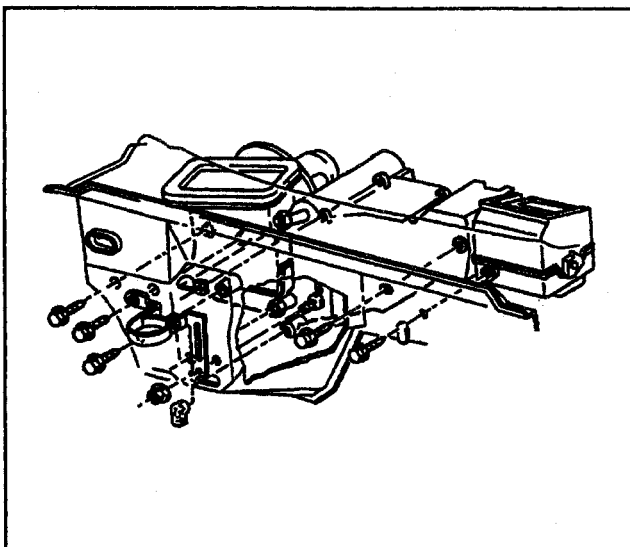

Figure 11—Heater Case (2 of 2)
13. Four screws on the engine side of the cowl holding the heater case to the cowl (Figure 11).
14. Two nuts on the engine side of the cowl holding the heater case to the cowl (Figure 11).